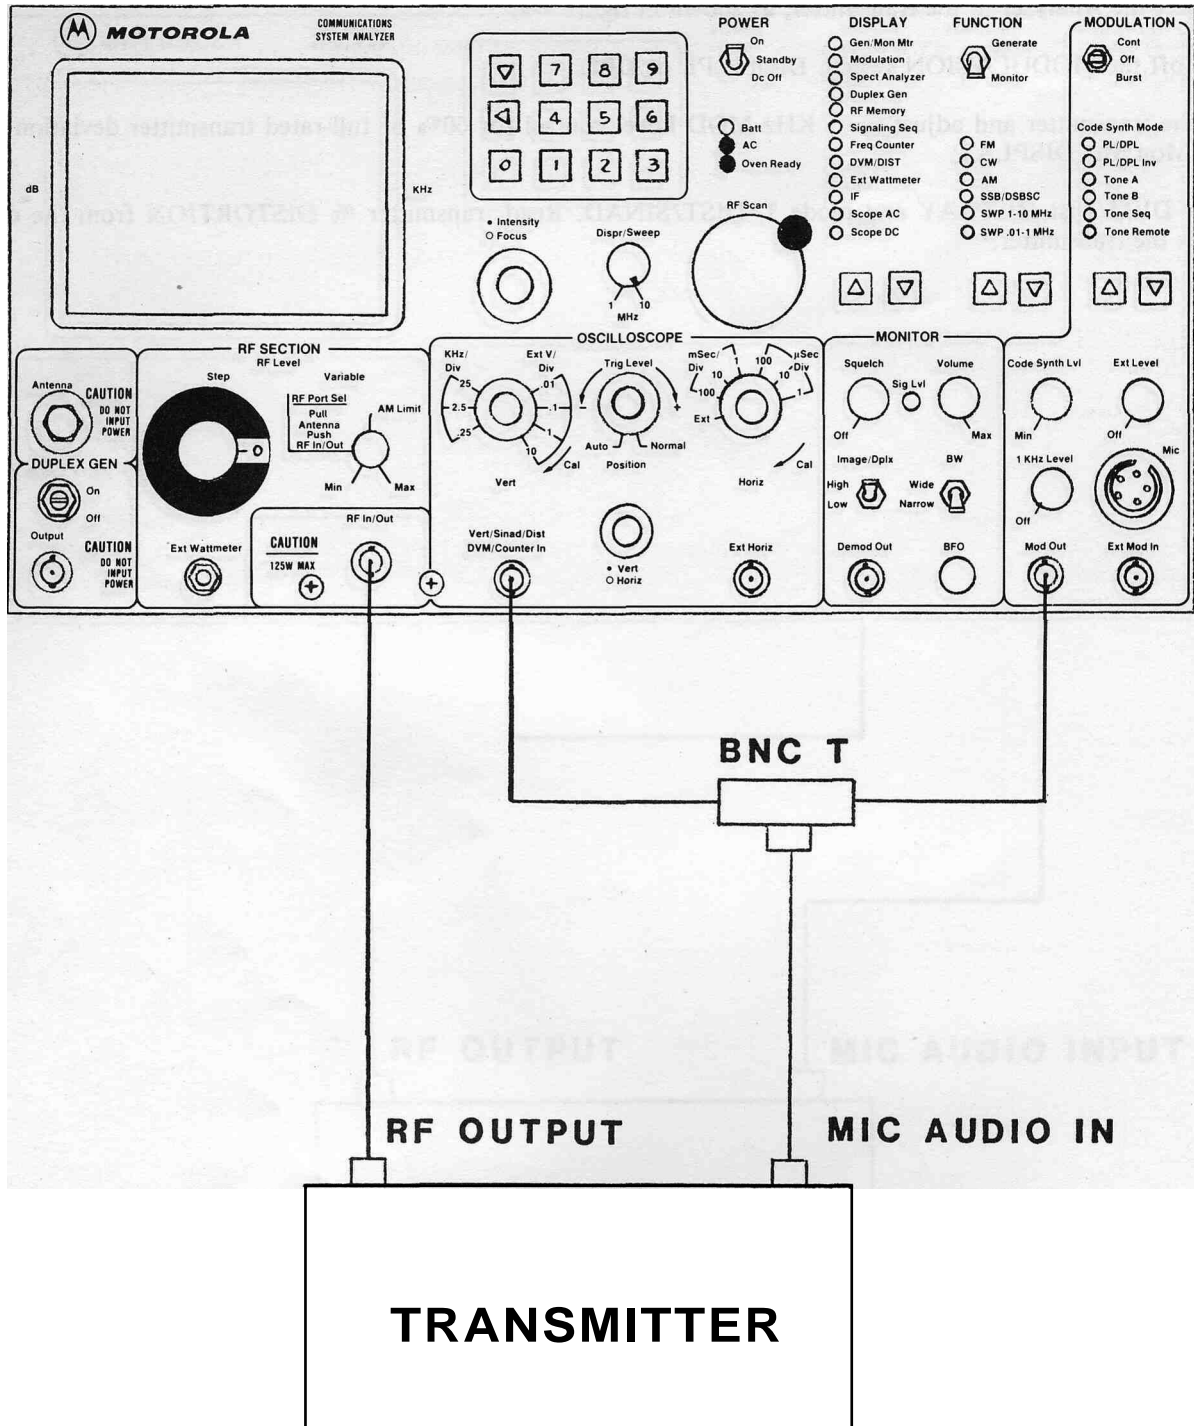

FIGURE 4-10. AUDIO FREQUENCY RESPONSE SETUP
1. As shown in figure 4-10, connect the Analyzer's RF In/Out port to the transmitter's RF output and the Vert/Sinad/Dist input jack to the Mod Out jack through a BNC tee fitting connected to the transmitter's microphone audio input. Disable PL and DPL.